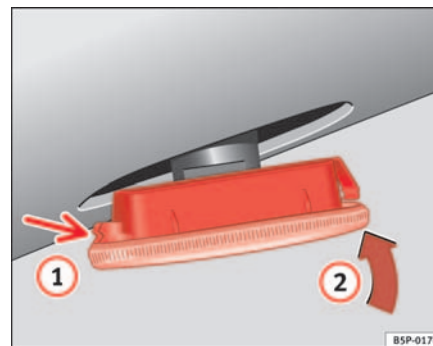

Fig. 187 Side turn indicator
- First place the indicator in the opening in the bodywork, fixing the tabs ⇒ page 249, fig. 187, arrow ①.
- Insert the lamp as shown by the arrow ② ⇒ page 249, fig. 187 ■